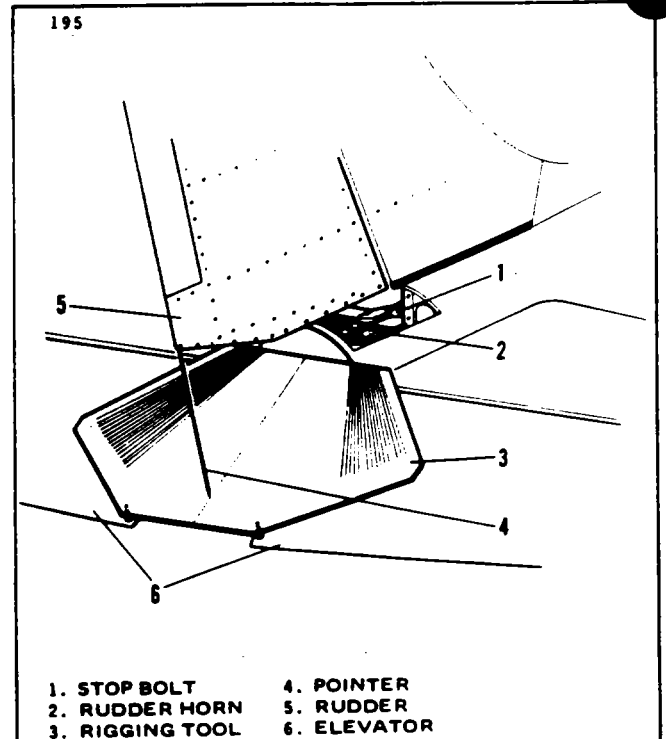

Figure 27-14. Installation of Rudder Rigging Tool
3. Rudder travel adjustment with the use of the fabricated rudder rigging tool (refer to Figure 27-14) may be accomplished as follows: